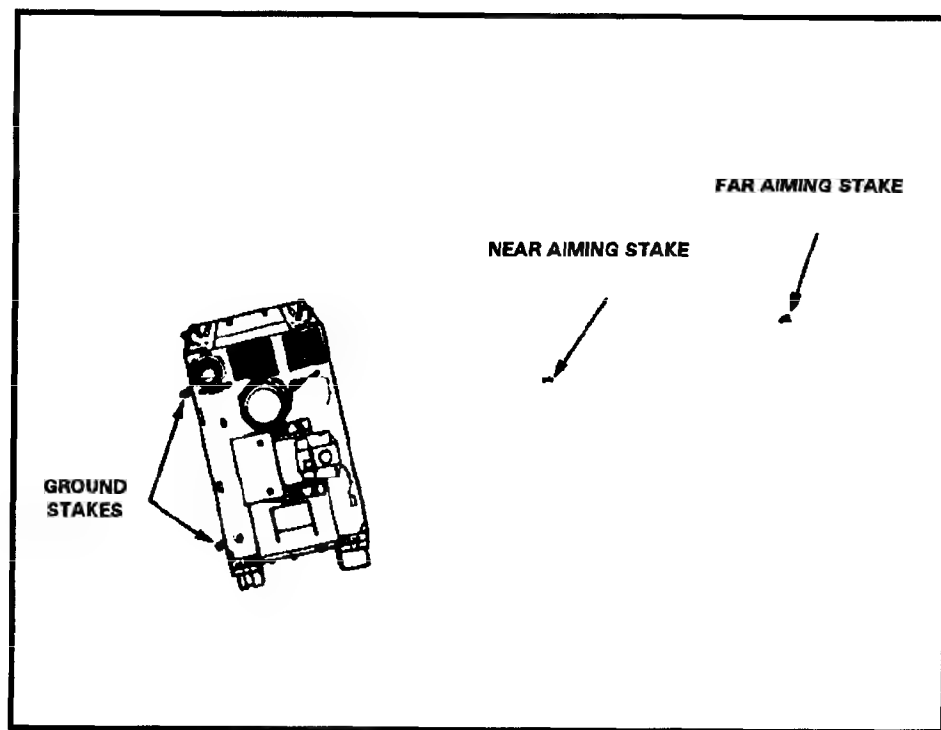

Figure E-14. Marking the ITV position (sloping terrain).
- (1) When the terrain to the front of the ITV falls away sharply (such as a cliff or high hill) (Figure E-14)—
- (2) To move into a marked position that has sloping terrain to the front—